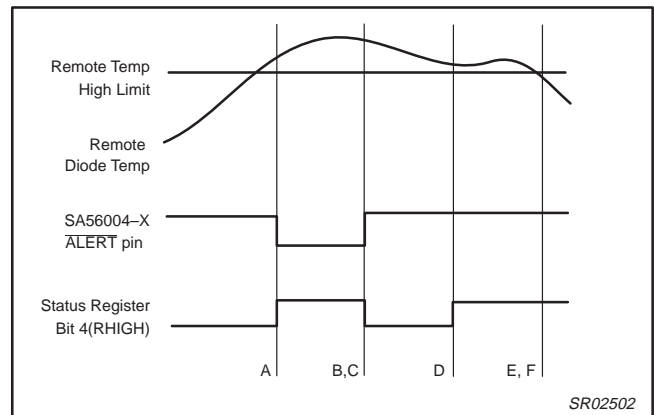

Figure 13. ALERT output in Interrupt Mode
In the interrupt mode, the ALERT output is used to provide an interrupt signal that remains asserted until the interrupt service routine has elapsed. In the interrupt operating mode, a read of the Status register will set the $\overline{\text{ALERT}}$ mask bit 7 of the Configuration register if any of the temperature alarm bits of the status register is set with exception of BUSY (D7) and OPEN (D2). This protocol prevents further $\overline{\text{ALERT}}$ output triggering until the master device has reset the $\overline{\text{ALERT}}$ mask bit at the end of the interrupt service routine. The Status register bits are cleared only upon a read of the status register by the serial bus master (See Figure 13). In order for the $\overline{\text{ALERT}}$ output to be used as an interrupt, the ALERT Configure bit D0 of the ALERT Mode (AM) register must be set LOW. Note, this is the POR default.